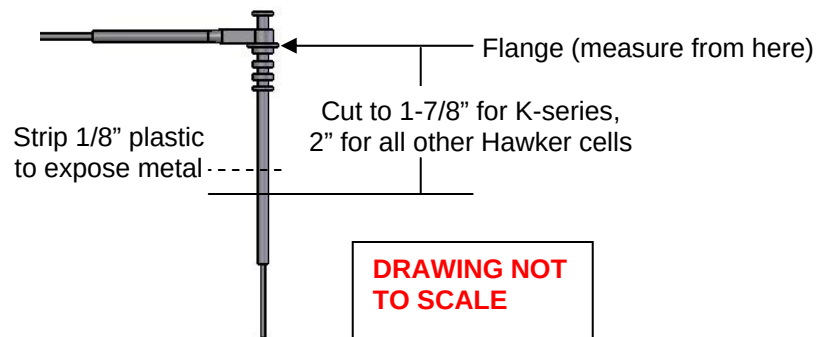

FIG. 2
- 15) Cut the level indicator to 2" for all Hawker battery product lines except K-series, cut it to 1-7/8" for K-series cells. (See fig. 2) Strip 1/8" of the plastic off the end of the probe to expose the metal. Insert the probe in the rubber grommet all the way to the flange and make sure it is properly seated to prevent leaks.